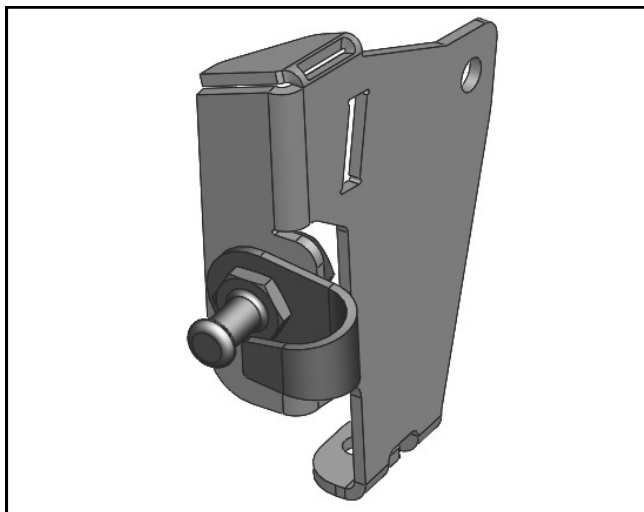

Fig. 2.2 (Right Latch Bracket)
- 2.2 Locate the right latch bracket seen in **Fig.2.2**.